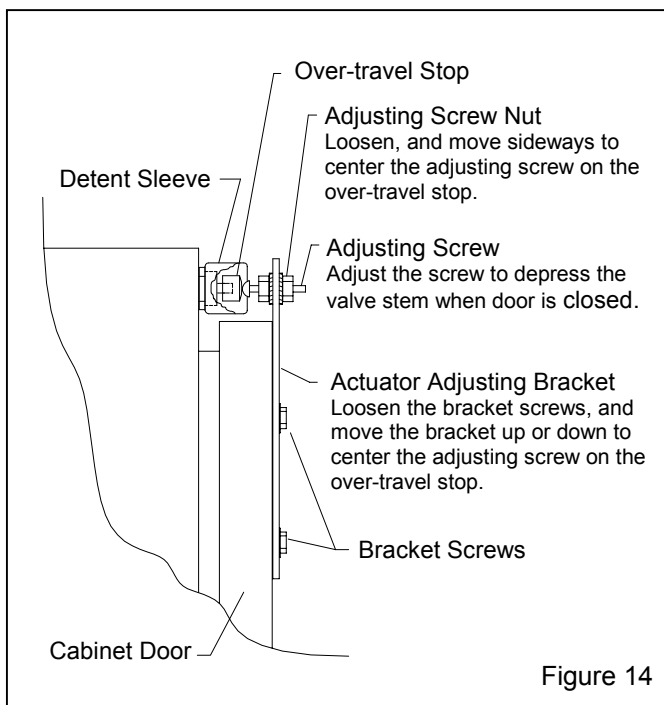

Figure 14
5.5 Door Interlocks, Figure 14